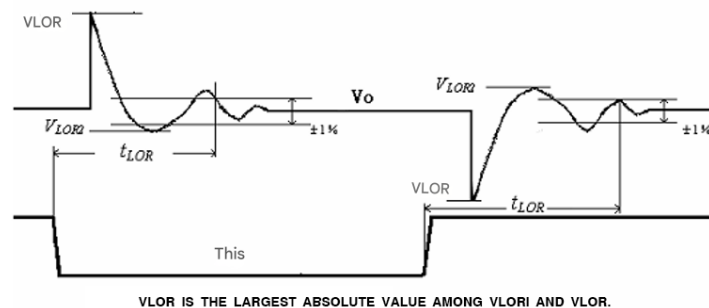

Figure A.4 Output voltage response V_{LOR} during load transient, output voltage recovery time t_{LOR}
- When the output load changes abruptly, the maximum change in output voltage is V_{LOR} , as shown in Figure A.4.
When the output load changes, the time it takes for the output voltage to recover to its stable value within $\pm 1\%$ of the load range is read from the waveform on the oscilloscope as t_{LOR} , as shown in Figure A.4.